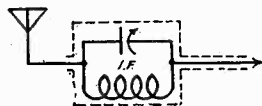
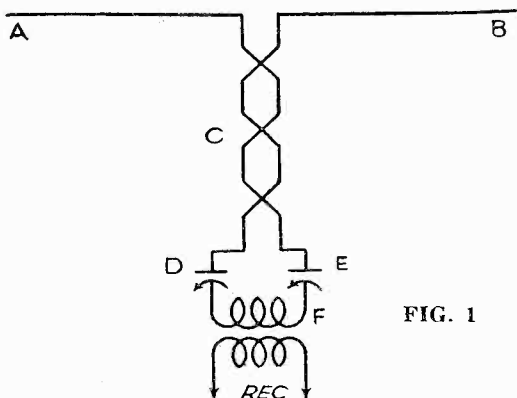
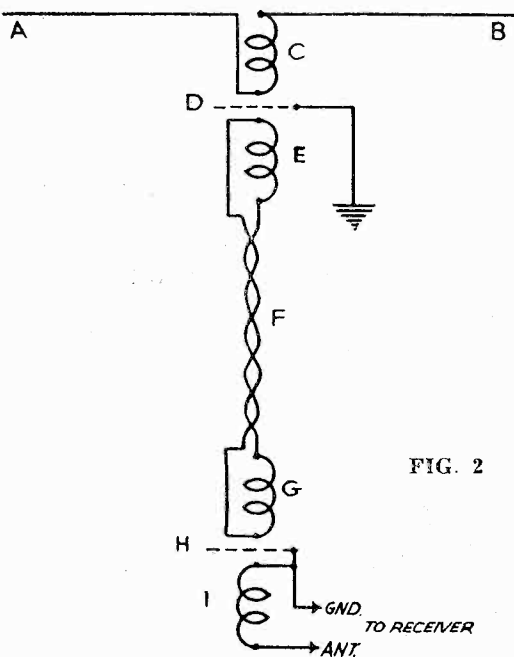

FIG. 3 Keep the lead as short as possible.
FIG. 1
FIG. 2
MANY users of high frequency superheterodynes have complained that ICW signals can be heard no matter where the set is tuned. This, generally, is not image interference, because it is not tunable. It is usually caused by the fact that ship signals between 400 and 500 KC ride through the first detector and are amplified by the intermediate frequency amplifier, whose frequency is usually somewhere in this band. This interference can come through even if the oscillator tube is removed from its socket. The best remedy for this type of interference is a wave trap in series with the antenna, and improved shielding around the high-frequency portion of the set. A wave trap is shown in Fig. 3. It can be an IF coil identical with those used in the intermediate transformers. The condenser can be any type with a capacity of about 100 MMF. and is used to tune
It was concluded that it just wasn't worth while to erect the usual rigid-dimension system as shown in Fig. 1, in which the transposed line C has to be of a certain length—133 feet for 80-meter work, for example. Our back yard didn't fit, unfortunately. Also we didn't like the two tuning condensers. Our receiver already has six controls too many. With these outcries against orthodoxy singing hurrah in our brain, we joyously crossed off the possibilities of Fig. 1 and proceeded on our quest.
NOW, Fig. 1 is not a self-tuned system at all. The tuning begins at one end of the antenna AB, at A, runs to the center and down one side of the transposed line C, through D, F and E, back up C again and so out to B. The only interference-eliminating possibility is through the canceling factor of transposition. The reason, presumably, that such a system has been widely used in preference to that shown in Fig. 2, which is nothing more than an adaptation of the broadcast-band 200-550-meter antenna coupling system that has been in use for some time, is that the business of hanging a transformer in the middle of the antenna is rather baffling, due to weight considerations, ground connection, weatherproofing difficulties, etc. Also, it seemed that the concentric cable lead of the broadcast system just didn't work well for short wave reception.
The obvious thing to do was to have an intermarriage of the broadcast system and the short-wave tuned system and produce a new offspring, which turned out rather happily to be that shown in Fig. 2, in which the transmission line can be of any length. Thus having brought the back yard into good repute once more, the only remaining problem was to hang something in the middle of the antenna that wouldn't weigh a ton and that would eliminate the tuning condensers on the receiver end, while leaving a tuned wire out in the clear to snaffle signals as they come along.
THE tuned system goes no further than the coupling transformer in the middle of the antenna. It is ACB in Fig. 2—merely a Hertz antenna with a coil in the center, the point of lowest voltage in a half-wave antenna. Coupled to this coil is the system EFG, which is nothing but a link coupling system to the coil I, which connects to the regular antenna-ground terminals of the receiver. This leaves the whole lead-in system at low voltage and untuned, allowing unusual latitude in the selection and arrangement of the feed line.
The mystery is neatly solved by regarding Fig. 3, which shows us that we have made a radio-frequency transformer with an electrostatic shield between the coils to "ground" any stray interference that has no legitimate business getting into our receivers. One of these transformers, or "couplers," constitutes either CDE or GHI of Fig. 2.
FIG. 3 shows the constructional details. It was found to be quite important to place the coils end-to-end as close together as possible. They could be wound one on top the other, but this would add structural difficulties, and end-to-end coupling seems to be quite sufficient. It was found to be eminently practical—though perhaps not scientifically most efficient for all types of feed line—to use the same number of turns for all four coils (two couplers) designed for
CONSTRUCTION of the couplers is shown in Fig. 3. Three materials important in the construction are (1) airplane "dope," (2) bond paper and (3) Tiro tape. Airplane "dope" is the material used to cover airplane wing fabric after it has been stretched. It is, of course, thoroughly waterproof and is excellent stuff to have around radio-frequency currents, when it is necessary to have something in such places. Airplane "dope" is available commercially at paint stores under the name of "duco," and is used in pigmented form on automobiles. The "clear" variety is best for radio use. In a pinch, collodion (obtainable at the corner drug store) can be used in place of airplane "dope," but is not very desirable on account of its hygroscopic (water-absorption) characteristic. Bond paper for insulation where wires cross each other is easily obtained by robbing your monther's stationery drawer. Tiro tape is a grey tape which comes in 1/2 and 1-inch widths and is similar to adhesive tape, having "stickum" on one side only. It contains nothing deleterious to the passage of radio-frequency currents at low voltage. In case you cannot obtain Tiro tape, "armature" tape is good, or you can even use surgical adhesive tape.
FIG. 3 Showing steps in construction of couplers. A shows first winding, directly on dowel. B shows first winding and electrostatic shield. C shows first winding, electrostatic shield and second winding. One layer of Tiro tape separates each winding from the electrostatic shield. Use tiny brads to hold windings in place. These must not be allowed to "short" the windings to the electrostatic shield: a tiny patch of tape can be used on these pegs for the second winding, so as to insulate the wire from the peg. It is best to cut the brads to a length of about 1/4-in. before driving.
drawn-out affair. The taping of the whole coupler after it has reached the constructional stage of C in Fig. 3 is a matter calling for great ingenuity, and the more care exercised in the taping, so as to provide a smooth surface for the application of "dope," the longer-lived will be the coupler in its career in the sun, wind and rain. Unless you live in Pittsburgh, you need not worry about high resistance between binding posts. The "dope" is just as effective as a duck's back. It is important that all of the wood surface of the coupler be covered with tape before doping, as the dope will peel from the wood surface, whereas it sinks into the tape and holds firm.